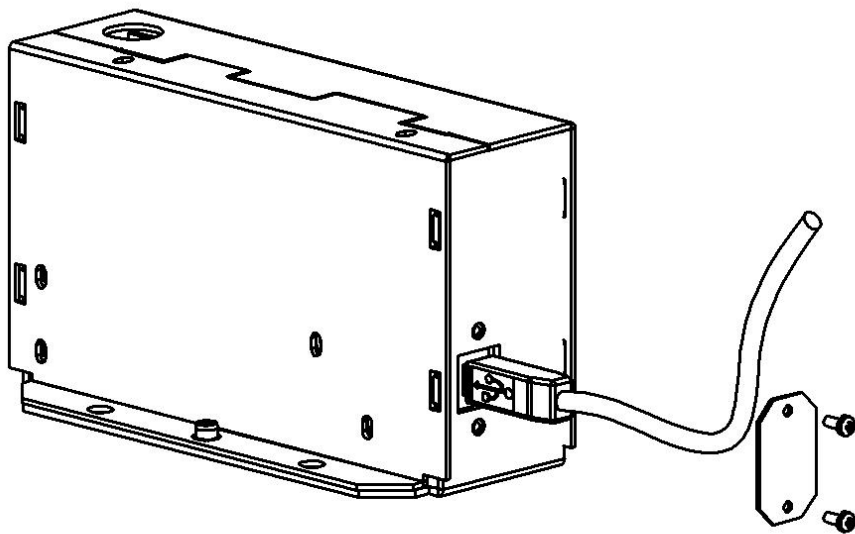

Figure 7. Open the USB cover on the side of the junction box to connect the USB cable to the junction box.
4. Remove the USB cover on the side of the junction box and connect the PC to the USB connection on the junction box (see Figure 7).